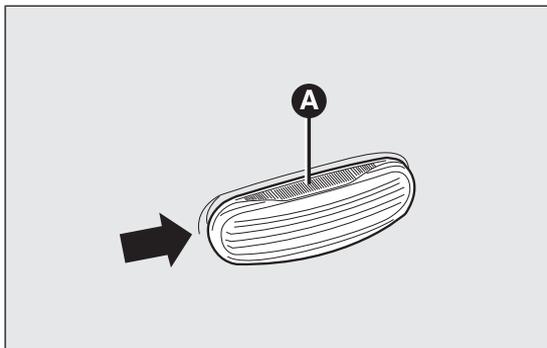
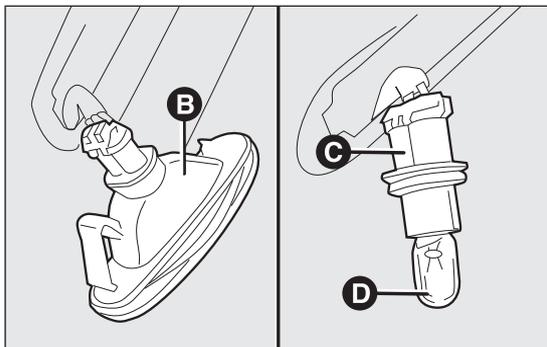

fig. 138
fig. 139
- operate the lens A fig. 138 to press in the internal catch B fig. 139, then pull the unit outwards;